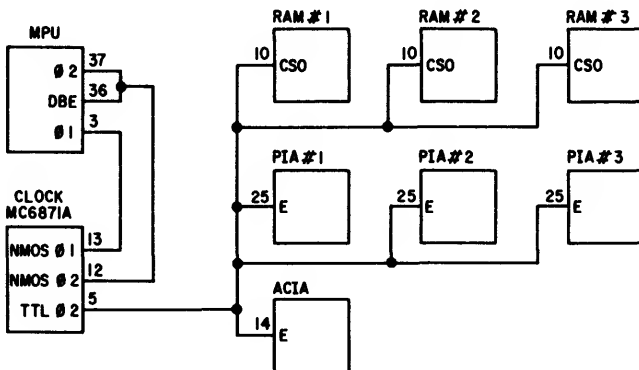

Fig. 10.6 Phase 1 and phase 2 clock signals
The $\phi 2$ clock-driver NMOS output signal must be tied to the $\phi 2$ and data bus enable input pins of the MPU, and the $\phi 1$ clock-driver NMOS output signal to its $\phi 1$ input pin. Phase 2 ($\phi 2$) is also used as a sync signal to any part of the system that the MPU can write into. This $\phi 2$ should not be the same as the NMOS $\phi 2$ signal from the clock, for this is a non-TTL-compatible clock signal, but rather a TTL type $\phi 2$. This TTL $\phi 2$ should be tied to the enable pins (E) of the PIAs and the ACIA in addition to one of the chip selects on each RAM. In our sample system, it will be tied to the CS0 inputs of each RAM (Fig. 10.6). Notice that the TTL $\phi 2$ is not required in the ROMs, although it may be gated into a positive chip select if desired. In most clock chips, there is usually a separate $\phi 2$ TTL output signal. The Motorola MC6871A clock chip has these outputs available.